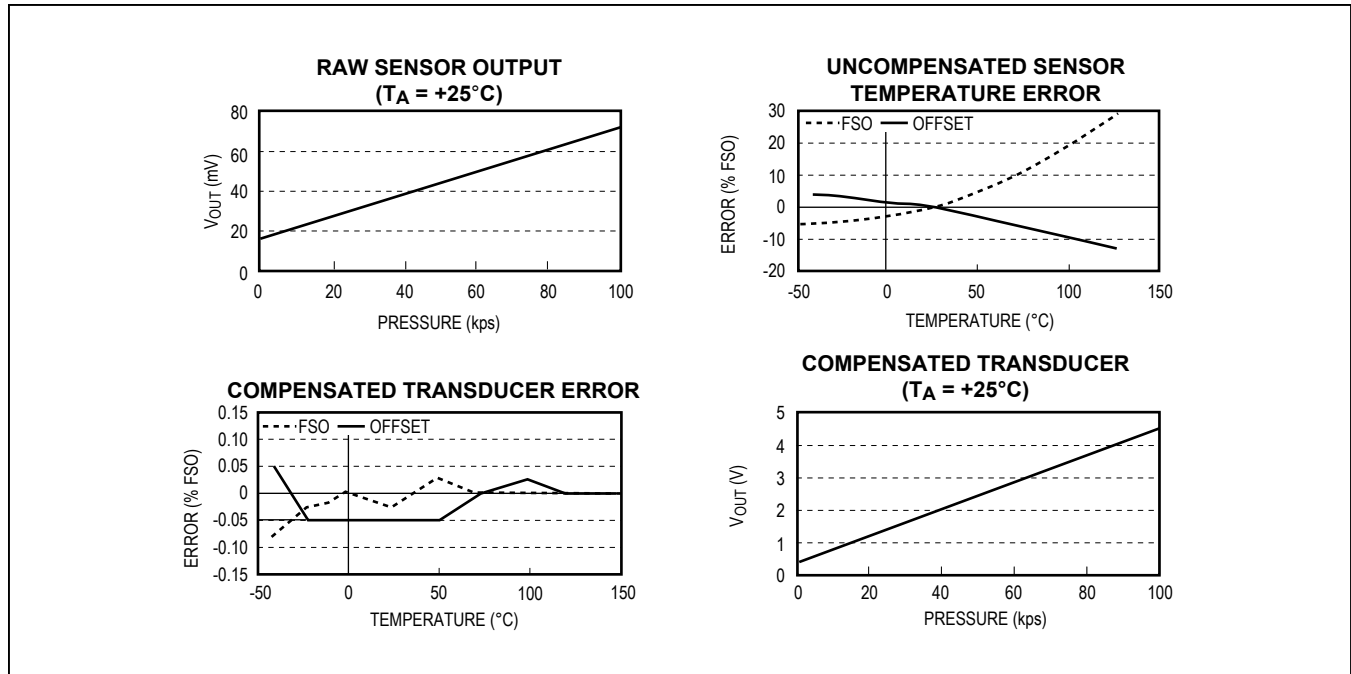

Figure 8. Comparison of an Uncalibrated Sensor and a Calibrated Transducer
The MAX1455 temperature compensation design corrects both sensor and IC temperature errors. This enables the MAX1455 to provide temperature compensation approaching the inherent repeatability of the sensor. An example of the MAX1455’s capabilities is shown in Figure 8. Table 16 lists the effects of compensation.
0.5000V and a span of 4.0000V. Nonlinear sensor offset and FSO temperature errors, which were on the order of 20% to 30% FSO, were reduced to under  $\pm 0.1\%$  FSO. Figure 8 shows the output of the uncompensated sensor and the output of the compensated transducer. Six temperature points were used to obtain this result.